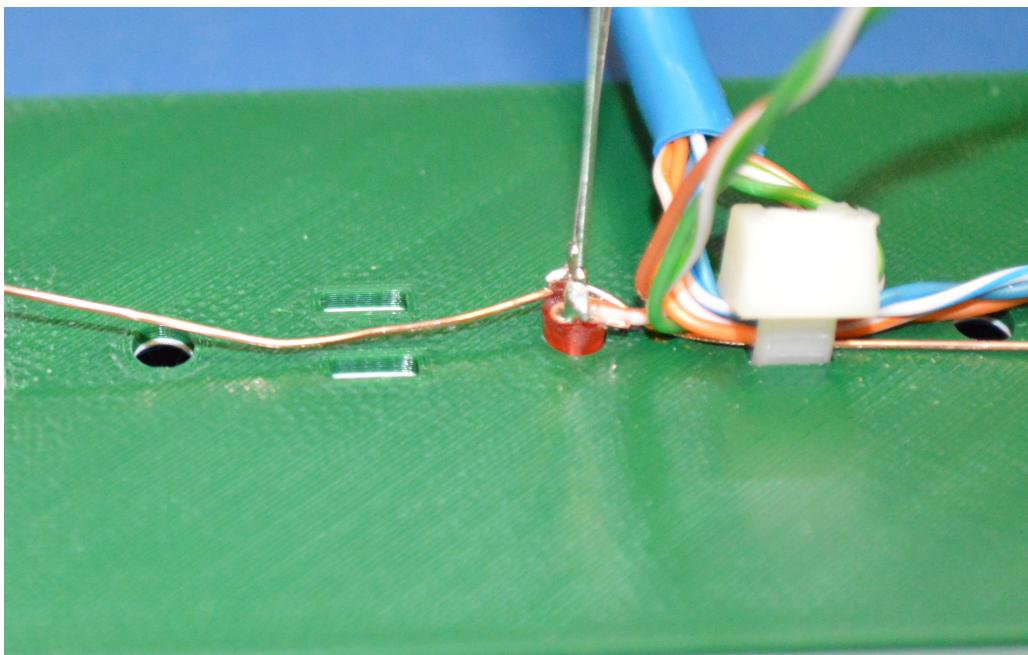

Figure 2.12: Solder the First LED
- Solder the first LED to one side of the cable. This one is the hardest as there is only a short length of wire to work with. See Figure 2.12.